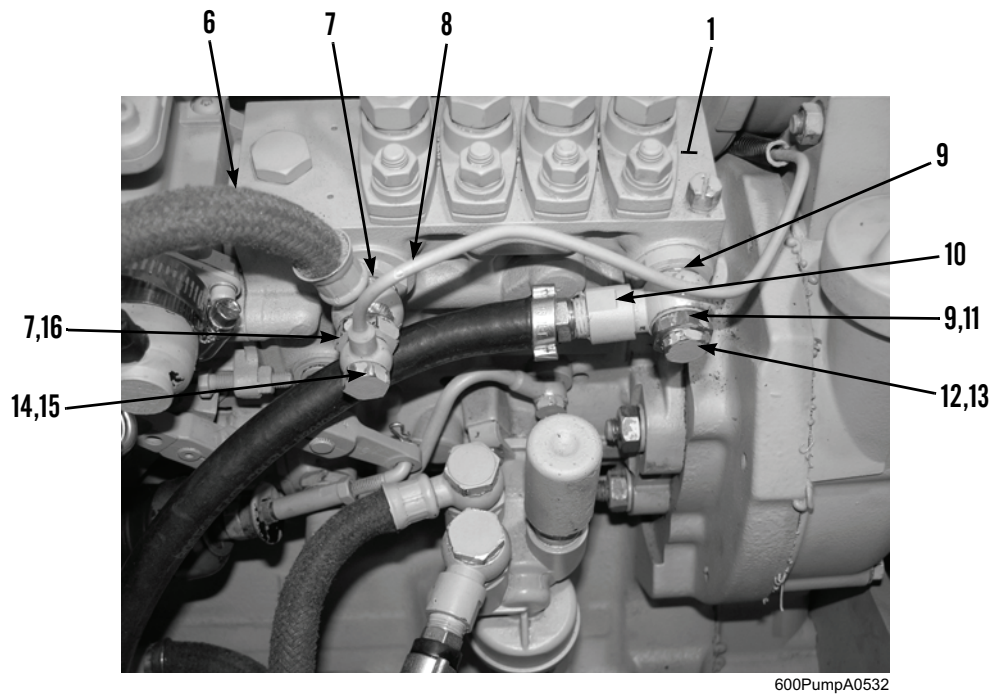

Figure 4. Fuel Lines.
12. Remove plug (Figure 4, Item 12), sealing washer (Figure 4, Item 13), fluid passage bolt (Figure 4, Item 11), sealing washer (Figure 4, Item 9), overflow line (Figure 4, Item 10), and sealing washer (Figure 4, Item 9) from fuel injection pump (Figure 4, Item 1). Discard sealing washers.
13. Remove fluid passage bolt (Figure 4, Item 14), sealing washer (Figure 4, Item 15), fuel line (Figure 4, Item 8), sealing washer (Figure 4, Item 7), fluid passage bolt (Figure 4, Item 16), hose assembly (Figure 4, Item 6), and sealing washer (Figure 4, Item 7) from fuel injection pump (Figure 4, Item 1). Discard sealing washers.